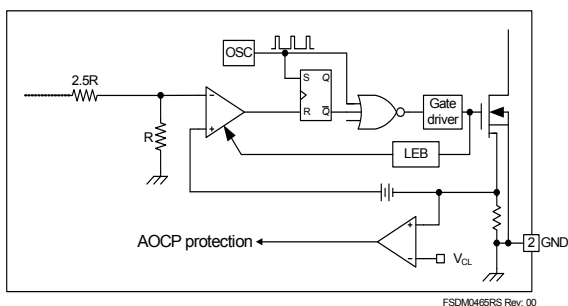

Figure 21. Abnormal Over-Current Protection
4.2 Abnormal Over-Current Protection (AOCP): When the secondary rectifier diodes or the transformer pins are shorted, a steep current with extremely high di/dt can flow through the SenseFET during the LEB time. Even though the FPS has overload protection, it is not enough to protect the FPS in those abnormal cases, since severe current stress is imposed on the SenseFET until OLP triggers. This IC has an internal AOCP circuit shown in Figure 21. When the gate turn-on signal is applied to the power SenseFET, the AOCP block is enabled and monitors the current through the sensing resistor. The voltage across the resistor is compared with a preset AOCP level. If the sensing resistor voltage is